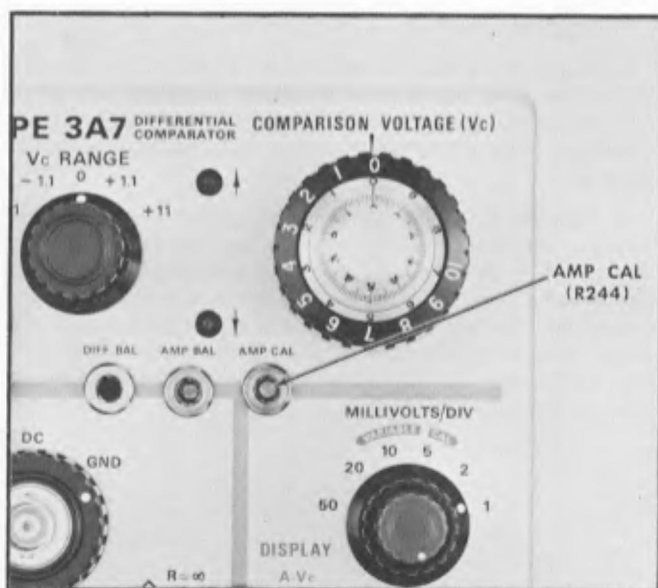
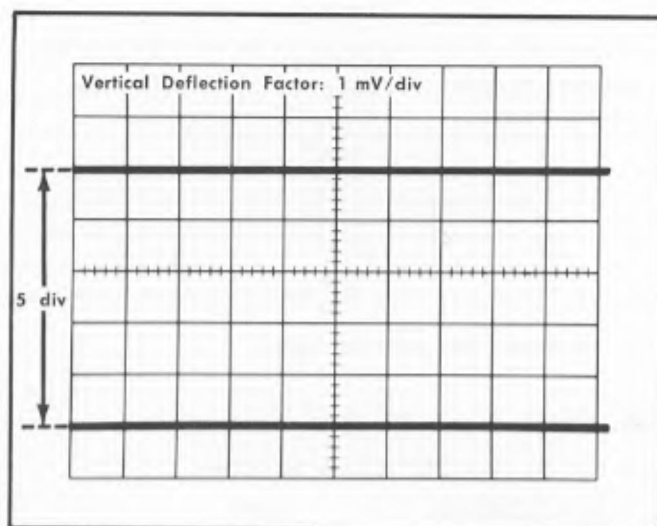

Fig. 5-15. Location of step 13e adjustment.
Fig. 5-16. Typical crt display showing correct gain adjustment.
e. Adjust the front-panel AMP CAL control (see Fig. 5-15) so the vertical deflection of the display is exactly 5 div peak to peak (see Fig. 5-16).